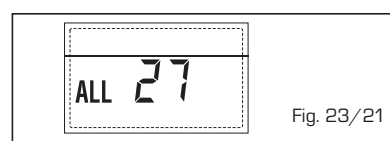

Fig. 23/21
- ANOMALIE COHERENCE ENTRÉE (S3) SEULEMENT POUR SYSTÈME 7 "ALL 28" (fig. 23/22)